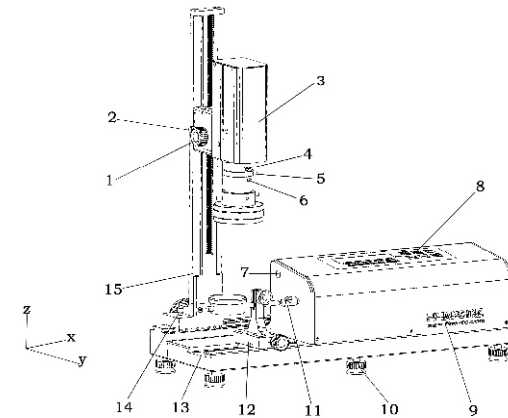
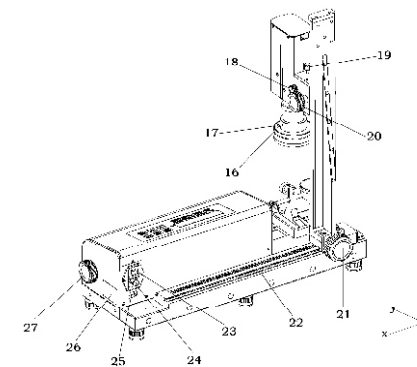
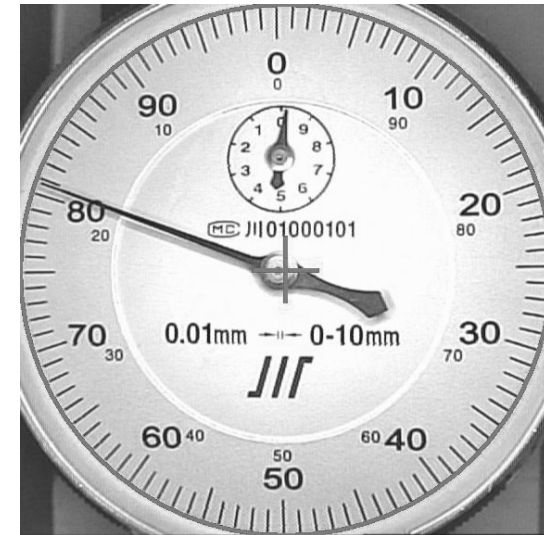

Figure 1
Figure 2
Figure 24
1. As showed in Figure 1, place the tested gauge on the sliding guide, move the clamp to make the gauge outfit about 3mm away from the feeler pin of the instrument, and then adjust the clamp's knob to fasten it.
2. Open the testing software to check if there is image in the "image display zone". If not, check if DV is well connected with the video line of the computer. If the connection has no problem but the display zone is still black, adjust "5.Lens aperture adjusting knob" in Figure 1.
4. Adjust "20.DV vertical adjusting knob" in Figure 2 to make the height from the lens to the surface of the tested gauge about 60mm (this height takes the most common dial gauges reading in 0.01 mm as the reference, and the actual distance may fluctuate with the size of dial: the bigger the dial, the longer the distance. The adjustment scope of the distance is usually "20–30mm of the reference height").
5. Adjust "21.Column horizontal fixing knob" in Figure 2 to make the tested gauge is within the visual scope of the lens (this knob makes the image move vertically).
6. If the image in the "Image display zone" of the testing software is very dim, adjust "6.Lens focus adjusting knob" in Figure 1 to make the image clear.
7. Adjust "4.Lens object distance adjusting knob" in Figure 1 to make "image positioning circle" tangent to the scale mark of the tested gauge. After adjusting the object distance, focus and aperture of the lens during coarse adjustment, you can start the fine adjustment.
1. Firstly, check the image of "Image display zone". If there is obvious shade in the image zone, adjust "20.DV vertical adjusting knob" in Figure 2 to make the shade on the surface disappear, so that the surface of the tested gauge receives light more evenly.
2. Adjust the image into the effect showed in Figure 24 by adjusting "1. DV's horizontal adjusting knob" (make the image move horizontally) in Figure 1 and "21. Column horizontal fixing knob" (make the image move vertically) in Figure 2.